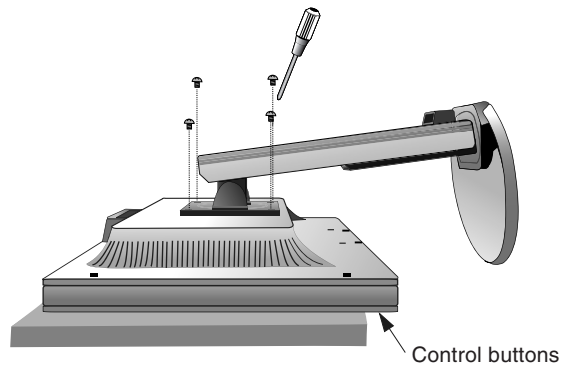

Figure S.1
2. Place monitor face down on a non-abrasive surface (**Figure S.1**).
3. Remove the 4 screws connecting the stand to the monitor (**Figure S.1**).